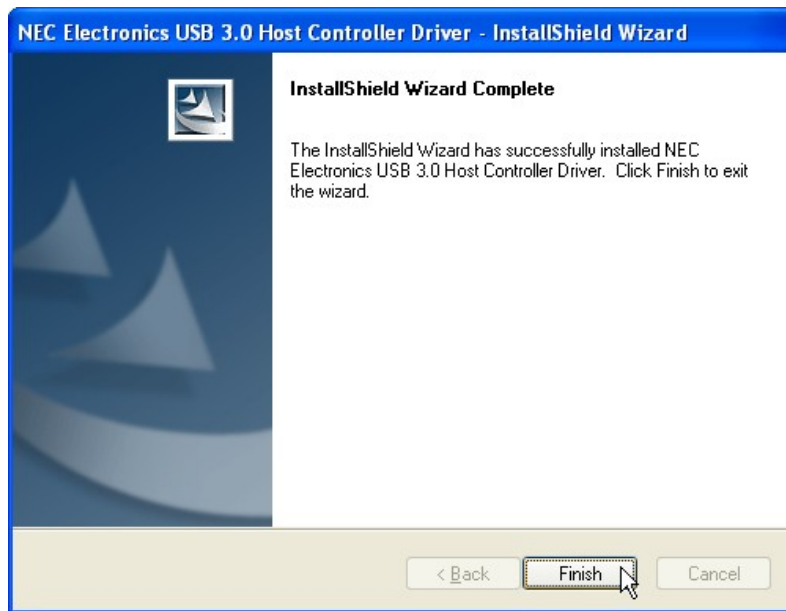

Figure 5-41: USB 3.0 Driver Update Complete
Step 10: When the installation is complete, click **Finish** to exit setup. (Figure 5-41).